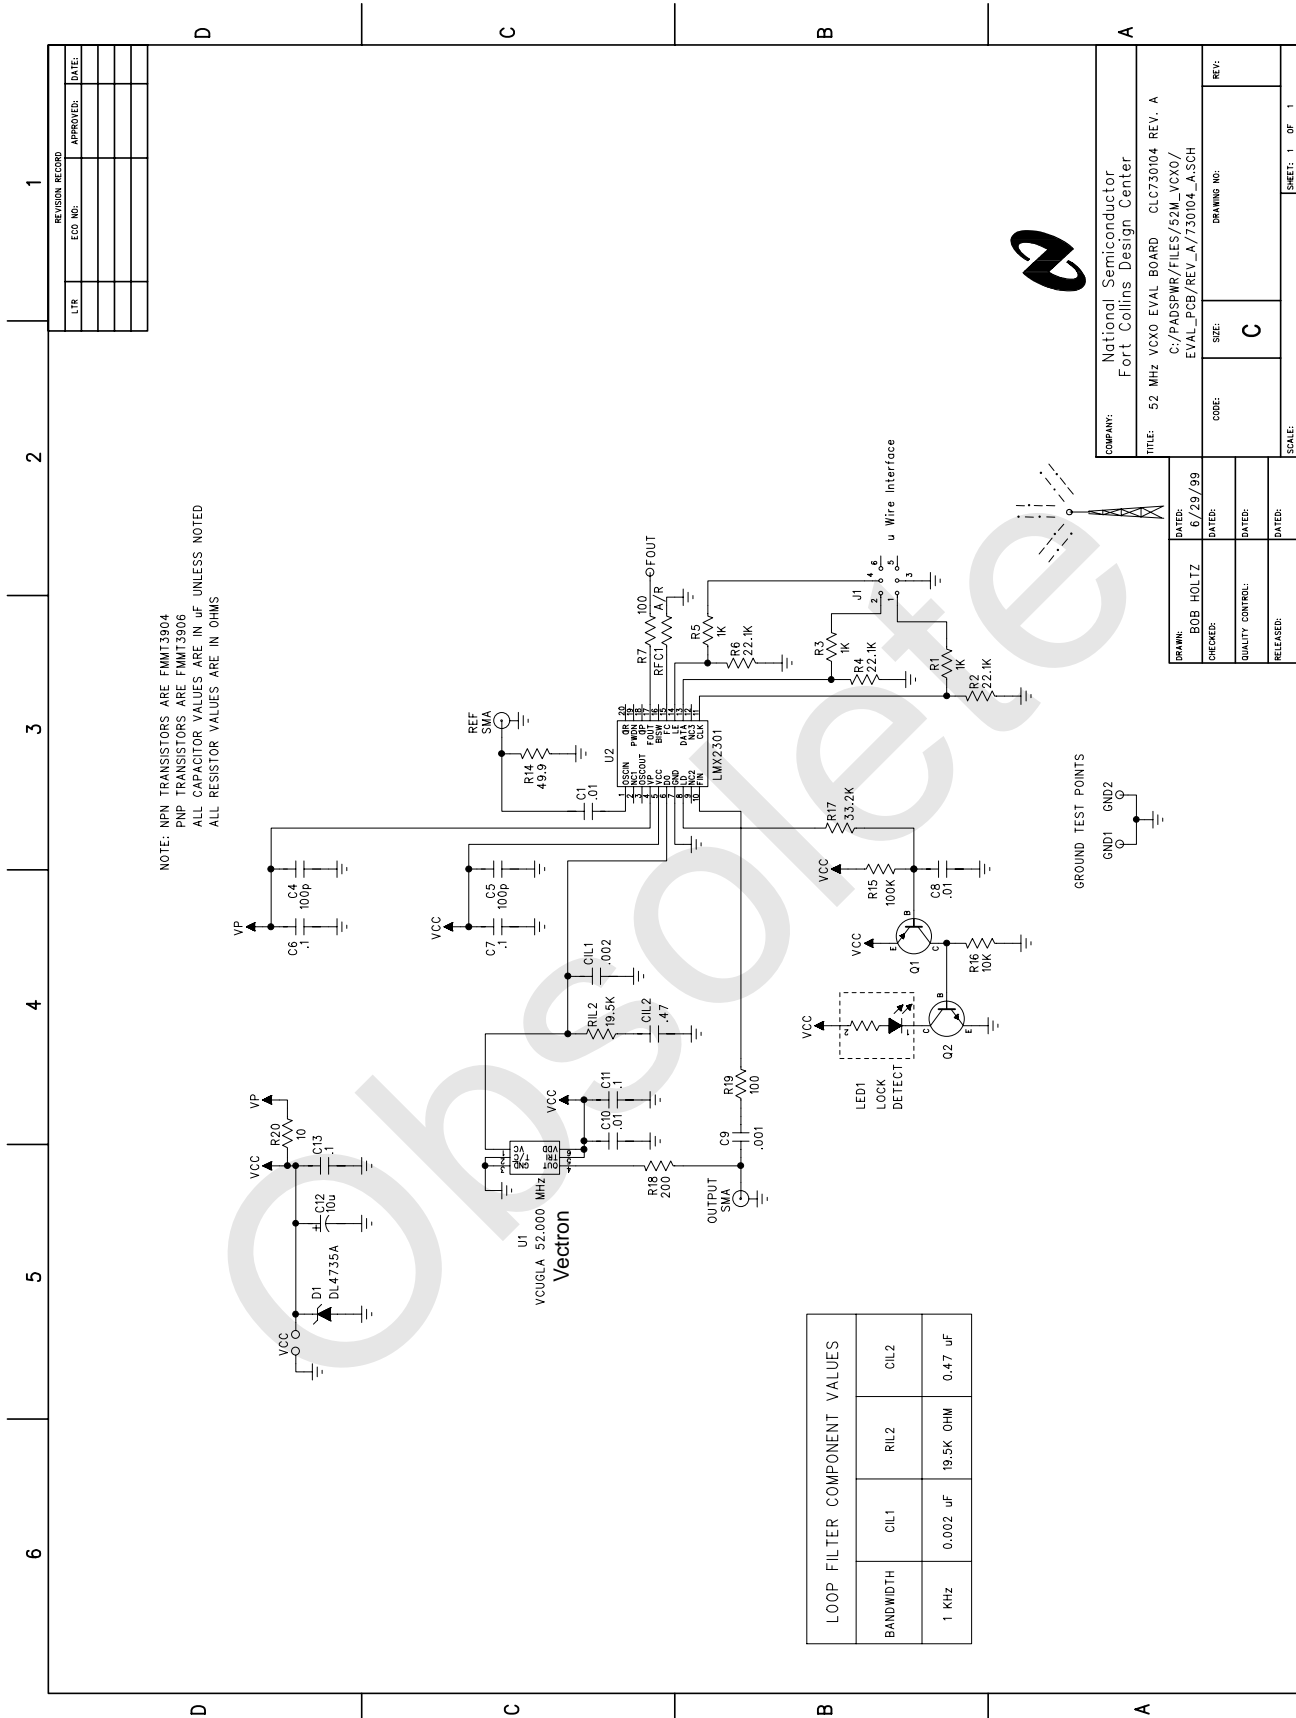

Figure 43 Circuit for a 52MHz VCXO Locked to a 13MHz Reference
2. Phase-lock a 52MHz VCXO to the 13MHz clock. This approach requires more additional components but has the least impact on existing circuitry. A circuit that can be used for this purpose is shown in Figure 43.